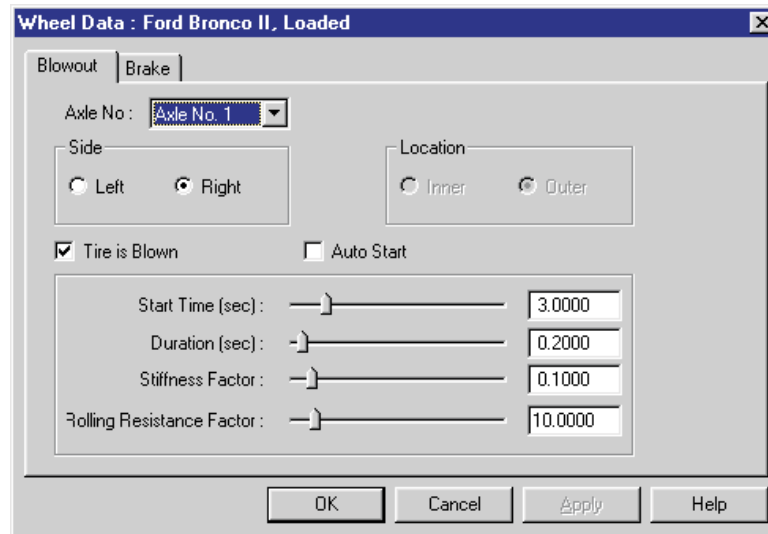

Figure 5-11 HVE Wheels dialog with Tire Blow-out Model option.
- Choose *Set-up* from the menu bar and select *Wheels*. The Wheels dialog is displayed with the Tire Blow-out information (see Figure 5-11).